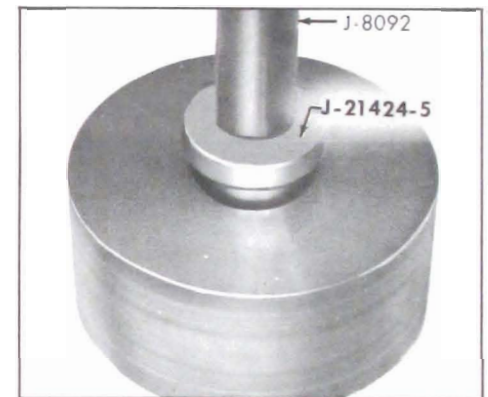

Figure 5-223
1. Install J-21424-5 in front of forward clutch drum. Using Drive Handle J-8092 press bushing into bore until Tool J-21424-5 bottoms on hub. See Figure 5-223.